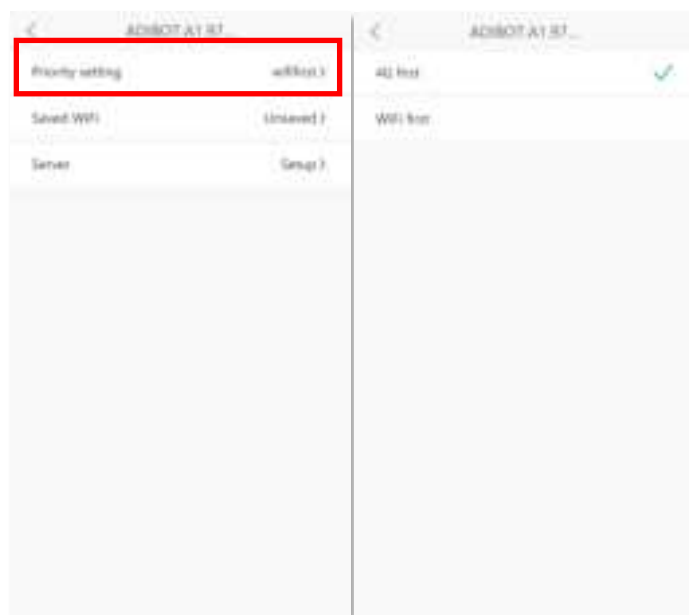

Figure 4.2.1b
1. Open the back cover of the 4G network card, and insert the 4G Micro SIM network that can access Internet into the PC, as shown in Figure 4.2.1b. You can first insert network card into the OC. When the 4G network card in the USB port changes from red indicator to blue indicator flashing every 2 seconds, you can confirm that the 4G network card can connect to Internet provided that the PC can access the Internet normally.